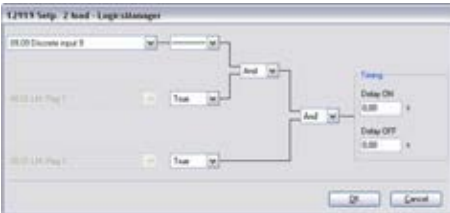

Fig. 150: LogicsManager function "Setp. 2 load"
3. Configure the LogicsManager function "Setp. 2 load" as shown in (Fig. 150) to enable load setpoint 2 if discrete input [DI 09] is energized.